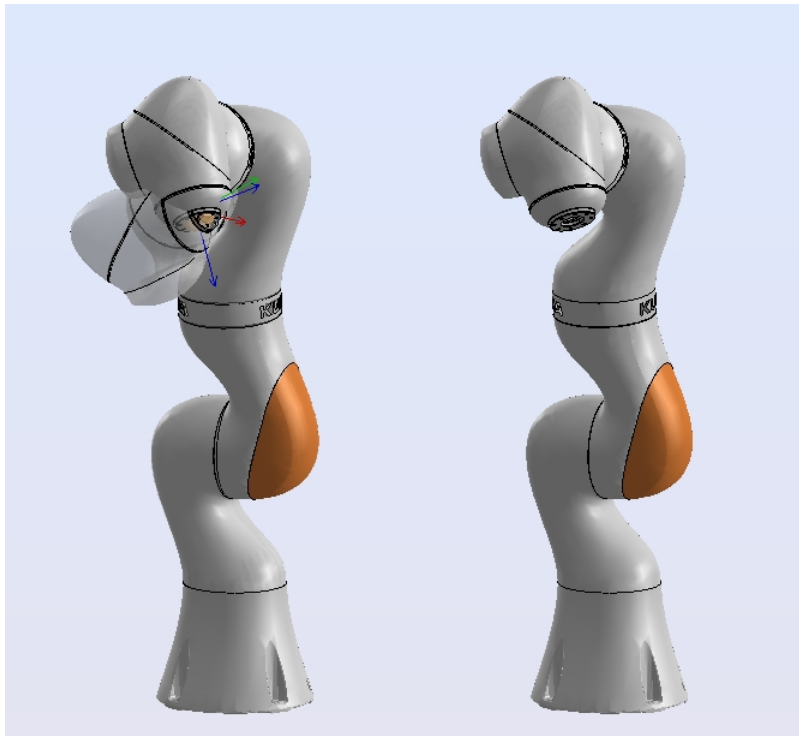

Fig. 11.2: Precise hand-guiding (a) second motion group (b) second motion group
2. Second motion group, Fig. 11.2 (a): in this case the operator can orient the axis of EEF by applying a moment, while the position of the EEF is kept fixed.
3. Third motion group, Fig. 11.2 (b): in this case the user can rotate the EEF of the robot round its axis.
The second motion group is demonstrated in Fig. 11.2 (a), in this mode the user can rotate the axis of the EEF by applying a moment, when the EEF is rotated its position stays fixed. The third motion group is demonstrated in Fig. 11.2 (b), in this motion group the user can rotate the EEF around its axis by applying a torque around EEF's axis.